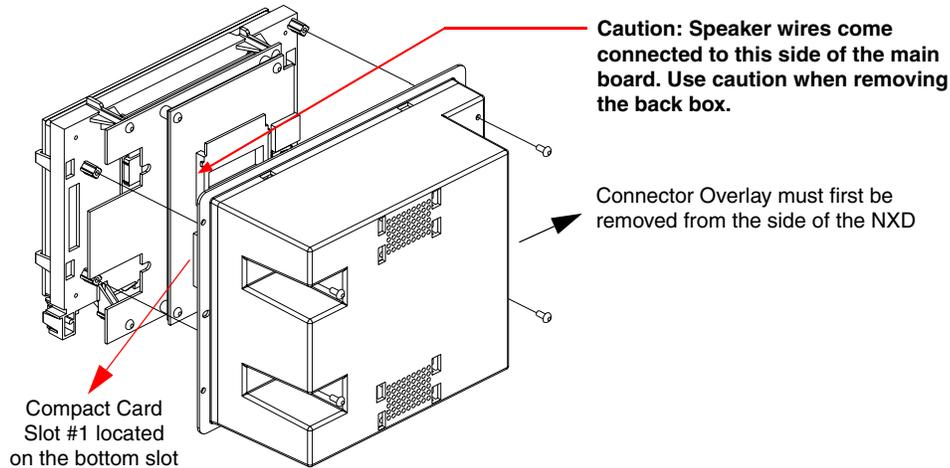

FIG. 21 Removing the rear back box from the main unit
8. Gently lay the back box to one side of the unit. This exposes the internal circuit board (FIG. 21). Take care not to place undue strain on the speaker cables.